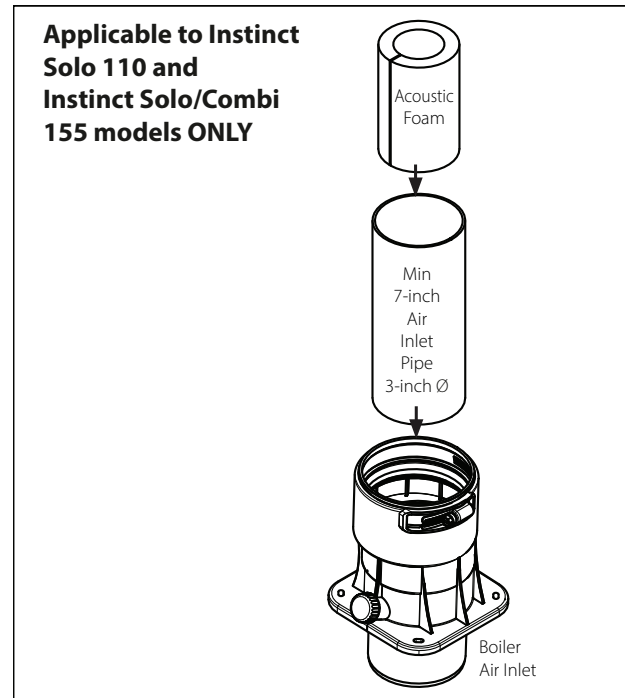

Figure 3 Install the Acoustic Foam
3. Refer to Figure 3. Insert the 7-inch section of air inlet piping into the air inlet adaptor.